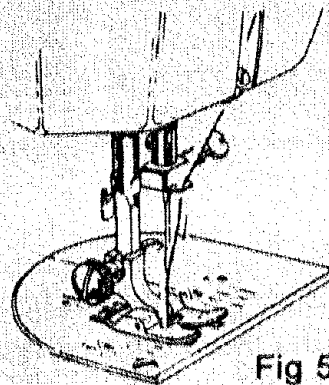

Fig 5
5. Always thread needle in direction as shown in Fig. 5.